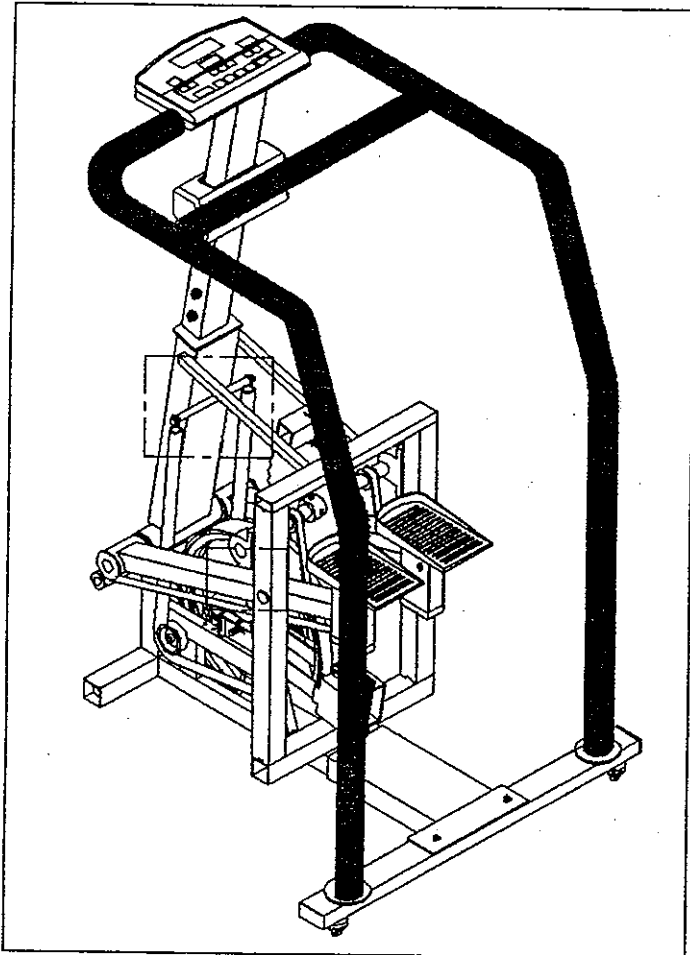
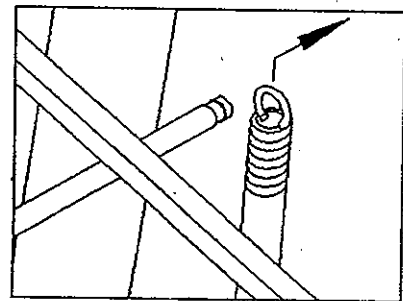

Fig. 8
Fig. 8-2
7. Remove the two springs by following the steps in Fig. 8 to Fig. 8-2.